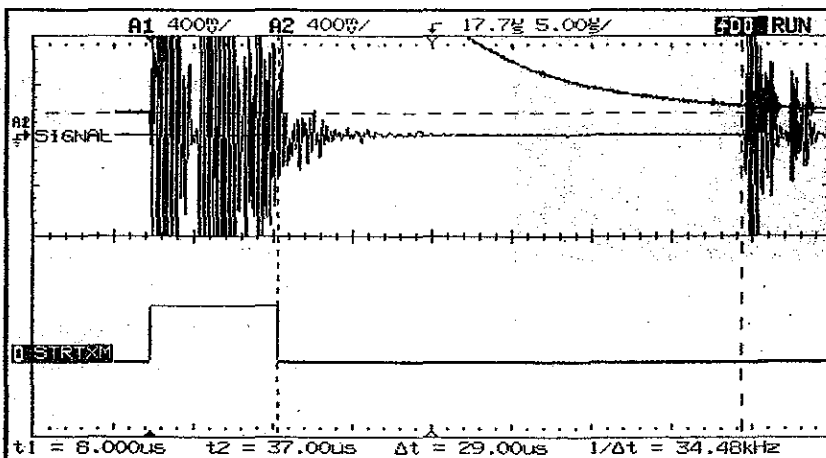

Figure 71
12. Verify that there is an echo ($>180mV$) pulse $\approx 29\mu s$ past the falling edge of STRTXM (see Figure 71).